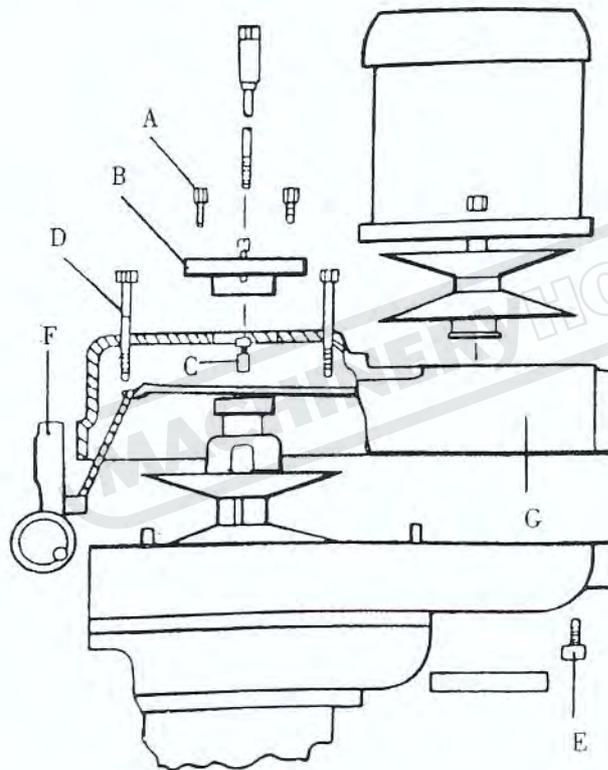

Figure 11. Removing the Vari - Drive Belt
CHANGING VARI - DRIVE BELT (Figure 11)
Complete the above procedures for removing the motor, then remove the three screws (# 1 page 38) (A, Figure 11) and lift out the top bearing cap move tow socket head cap screws (# 17 page 38) and sleeves (# 19 page 38) (C). Next, remove the four screws (# 6 page 38)(D) and the screw (# 55 page 38)(E) holding the belt housing the belt housing (G) to the base (# 53 page 38). Unscrew and remove the two lower screws (# 25 page 36) in the speed changer bracket just below the speed dial(# 2 page 36)(F).